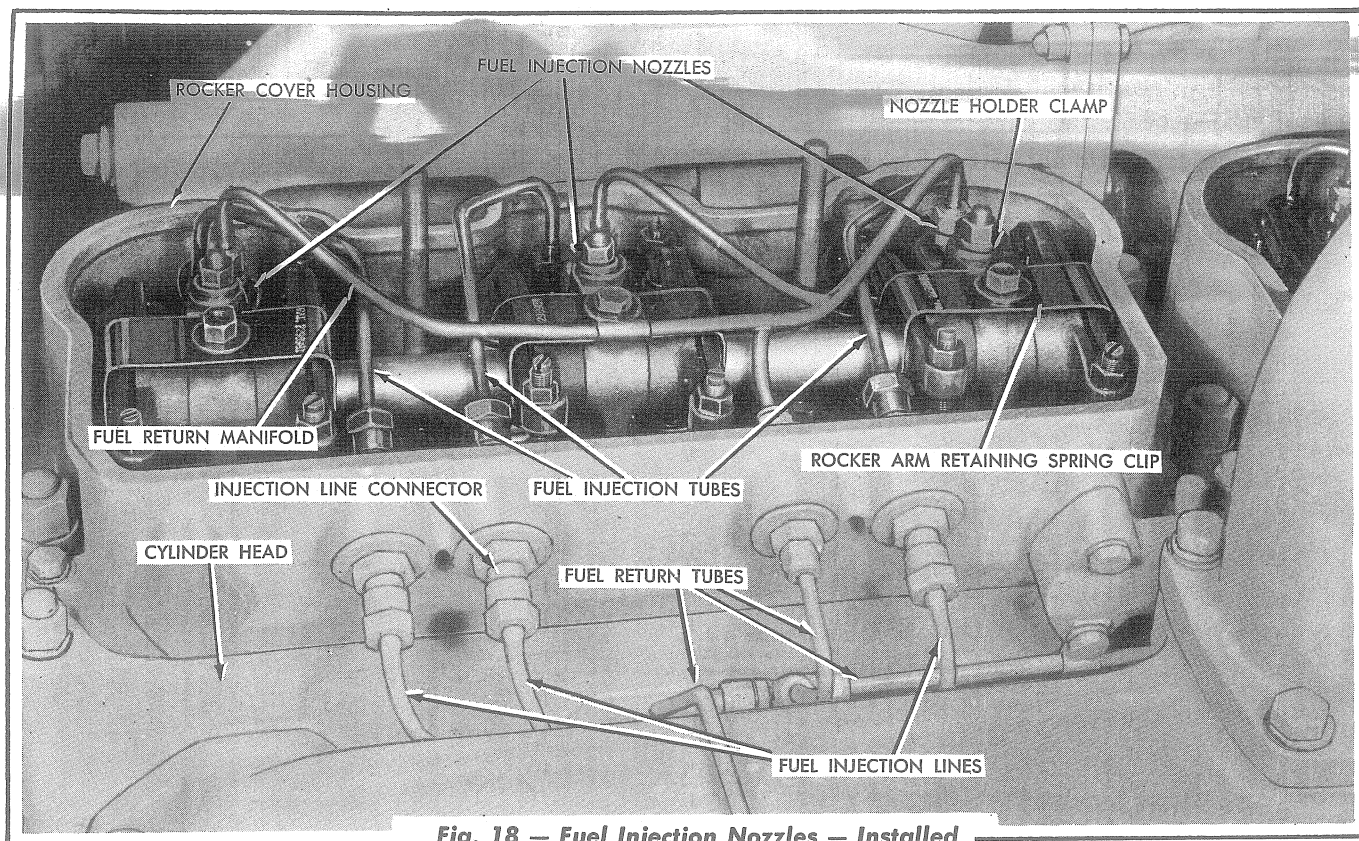
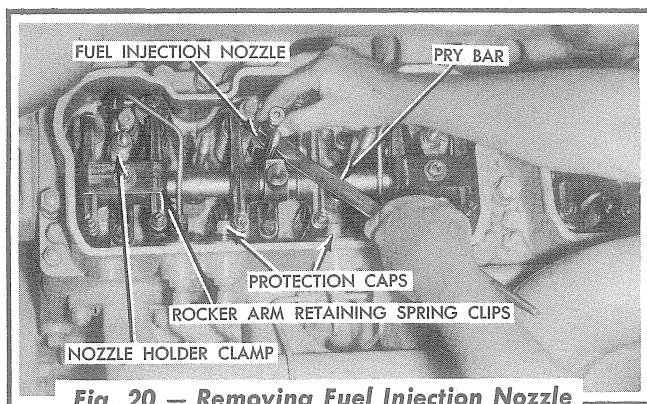

Fig. 18 — Fuel Injection Nozzles — Installed
Fig. 20 — Removing Fuel Injection Nozzle (Tractors Serial No. 4001 and Above)
4. Remove the nut and lockwasher securing the rocker arm retaining spring clips (Fig. 18) and remove the clips. Remove the nut and washer securing the nozzle holder clamps and remove the clamps. Using a large screwdriver, or a small pry bar as shown in Fig. 20, pry up on the nozzle protection cap and pull the nozzles from the cylinder heads. **CAUTION:** Use care when removing an injection nozzle to prevent striking the nozzle tip.